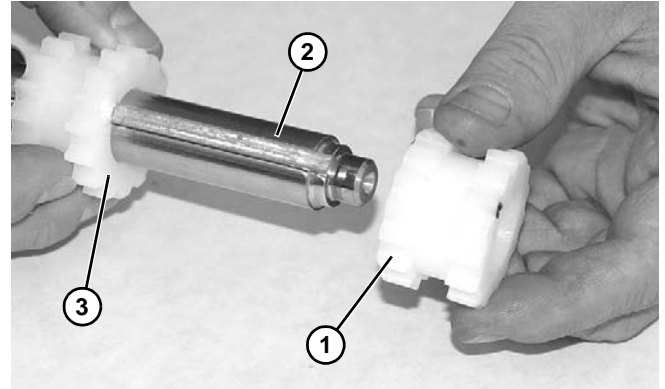

**Figure 70**
3. Slide free moving sprocket(s) (**Figure 70, item 1**) off the end of pulley (**Figure 70, item 2**).
4. Measure location of fixed sprocket (**Figure 70, item 3**), loosen set screw, and remove fixed sprocket.